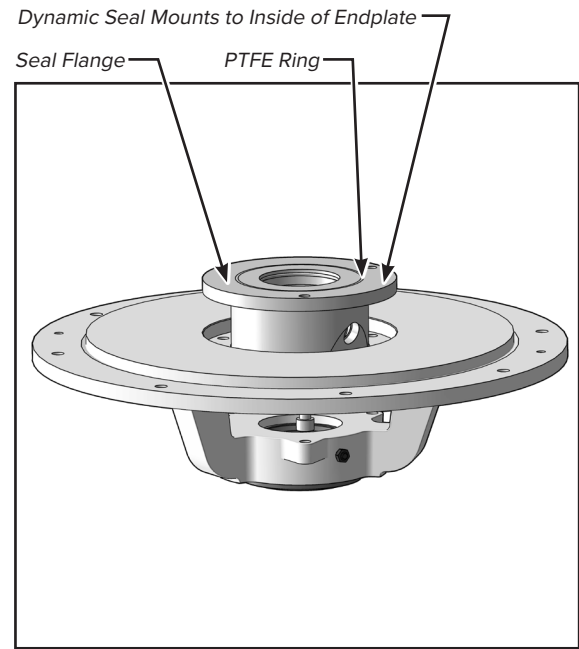

FIGURE 21
10. Remove the dynamic seal from the endplate (figure 21).
13. Install new or rebuilt dynamic seal from the inside face of the endplate. Verify that O-rings are in place for both shaft (inner diameter) and the gland O-ring that forms the seal on the inside face of the endplate. Lightly lubricate each O-ring to prevent damage or rolling during assembly. **Insure PTFE ring is properly seated and flush with seal flange** before continuing installation (figure 21).